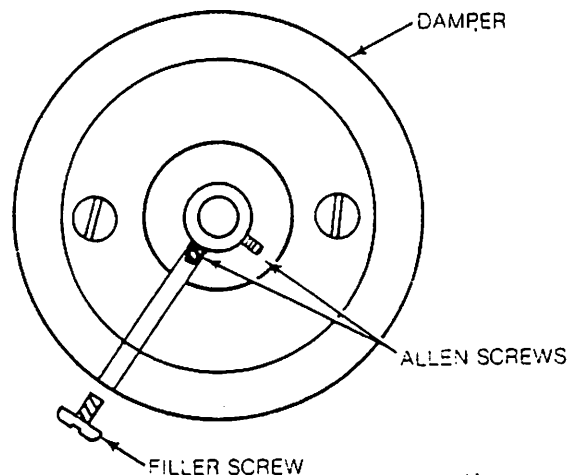

FIGURE 2.
- a. Verify that one of the damper set screws is aligned with the filler hole (reference Figure 2).
- c. Using a .050" allen wrench, tighten the set screw aligned with the filler hole (reference Figure 2). Rotate the damper and tighten the remaining set screw.